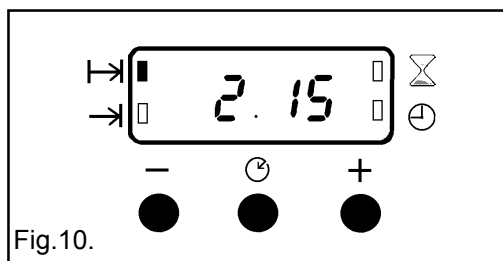

Fig.10.
- iii) To set the length of cooking time, press the Selector Control button until the 'Cook Time' (T→) indicator neon is illuminated. Press the increase control (+) until the required length of cooking time is displayed, e.g. 2 hrs 15 mins as Fig. 10. Depress the decrease control (-) if necessary.